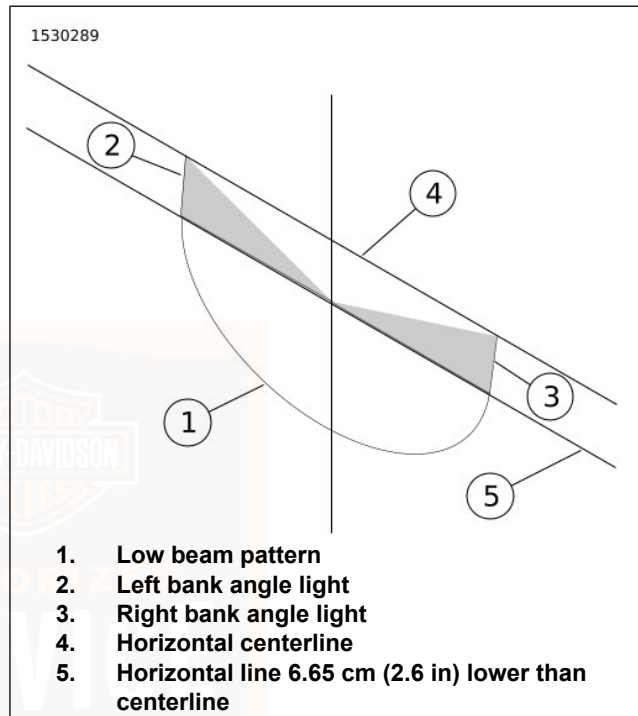

Figure 81. Bank Angle Light Pattern
See Figure 81. If bank angle lights do not align as shown, adjustment is necessary.
2. See Figure 81. Set vertical adjustment.